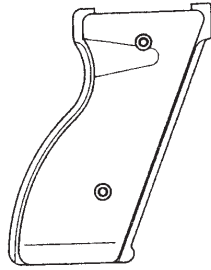

Fig. 12 – Handgrip
15. The handgrip (Fig. 12) serves as a hand rest in firing and it joins the stock to the receiver.